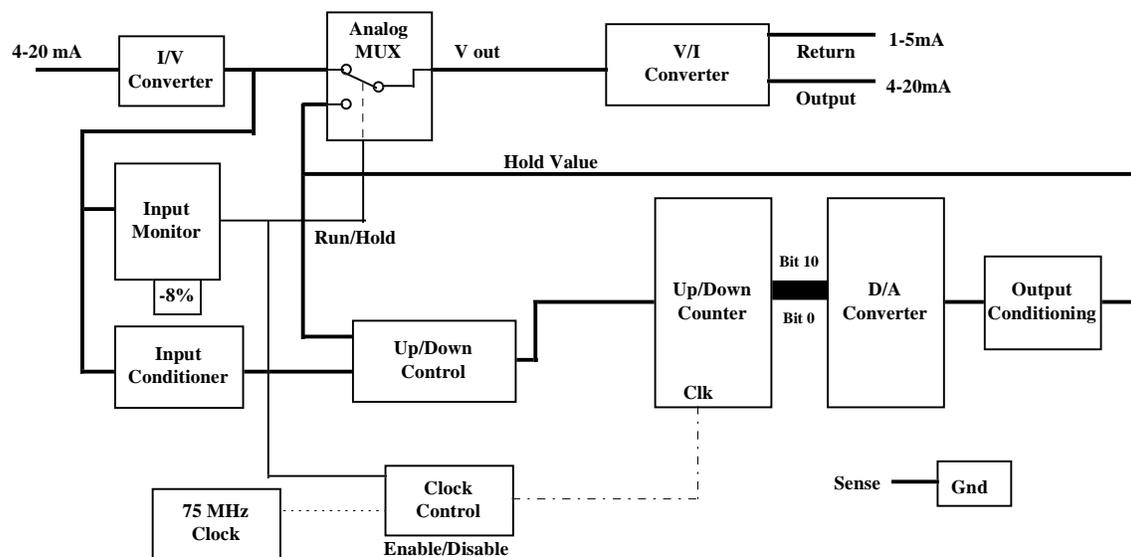

Figure 1. Basic Functional Block Diagram
Figure 1 shows a block diagram of the 1726F Output Holder operation.
1. Select the Compounds icon  located at the top of the screen using the right mouse key (see Figure 1).